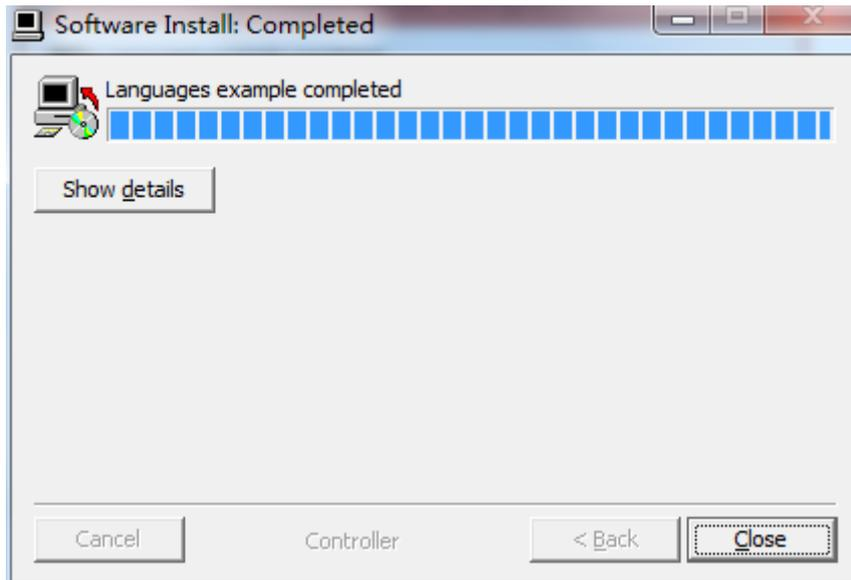

Figure 5-5
(6) If you have installed the software before, the tip of the following figure 5-5 will appear: